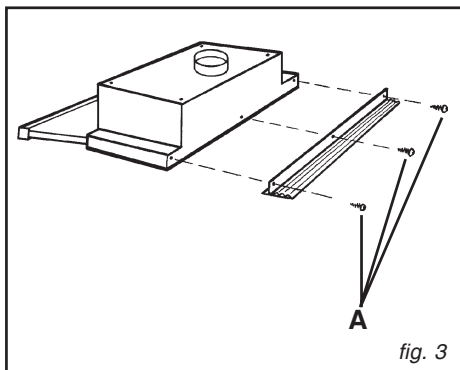

fig. 3
**IMPORTANT:** So as not to damage your product, during installation **USE ONLY THE SCREWS PROVIDED**. Make sure these are used as shown in the following instructions. To compensate possible depth voids between the appliance and the wall, a plastic **SPACING BAR** to be fixed at the back of the appliance by means of the three screws A is included (fig. 3). The 3 screws A to be used are contained in the accessory bag attached to the plastic spacing bar. Cut the spacing bar according to the distance to be adjusted.